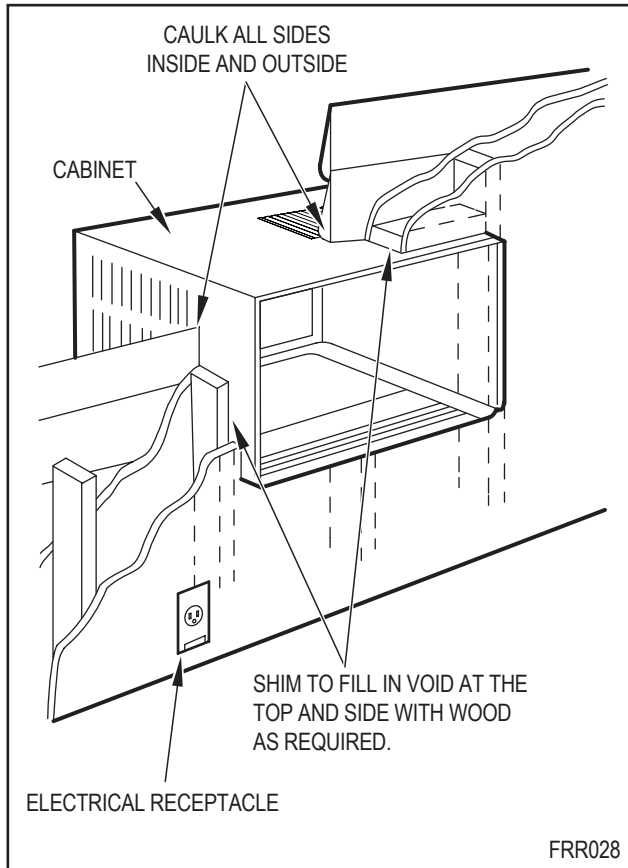

Figure C.5.6
STEP 4. WALL PREPARATION – The maximum wall thickness permissible without special construction is determined by the model size to be installed. Observe the maximum wall thickness shown in Figure C.5.6 Walls exceeding the maximum thickness shown in the chart should be altered as shown in Figure C.5.6